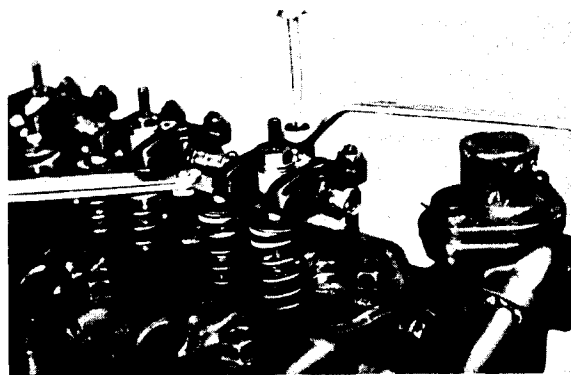

Figure 11
7. To adjust the valve clearance, loosen the adjusting lock nut and turn the rocker arm adjusting screw clockwise or counterclockwise until you get the correct clearance (Fig. 11). Tighten the locknut securely. Check to make sure that the clearance was not changed while tightening the locknut.